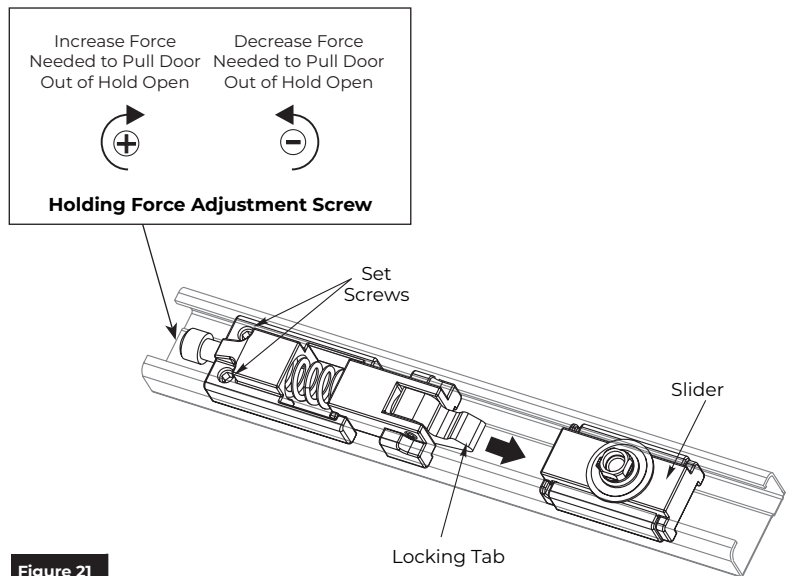

Figure 21
1. Insert locking tab of hold open assembly into track slider. (Figure 21)
3. Tighten hold open set screws to lock down hold open assembly. (Figure 21)
5. Adjust hold open by turning adjustment screw with provided 3/16" hex wrench. (Figure 21)